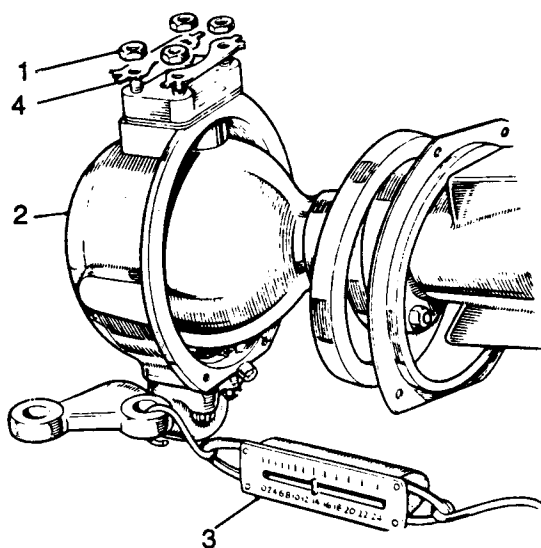

Fig J1.54
- (9) Refer to Fig J1.54. Tighten the fixing nuts (1) evenly and securely, but do not engage the lock plates (4) at this stage.
- (10) Hold the swivel pin bearing housing (2) by clamping the flange in a vice fitted with soft jaws, or temporarily fit the swivel pin housing to the axle case.
- (11) Using a spring balance (3) attached to the steering lever at the track rod connecting eye, measure the resistance to rotation of the swivel pin housing, which must be 5,4 kg to 6,3 kg, after having overcome inertia. Adjust as necessary by adding or subtracting shims under the top swivel pin bracket until the correct resistance figure is obtained.
- (12) Engage the lock plates (4) at the swivel pin fixing nuts.
- (13) Pack the swivel pin housing oil seal with heavy grease.
- (14) Fit the seal and its retainer to the swivel pin housing, locating the steering stop adjustment bolt in the forwardmost hole.
- (15) Check that the oil seal wipes the full surface of the bearing housing and adjust the position, if necessary, by slackening off the retainer bolts and resetting the seal.